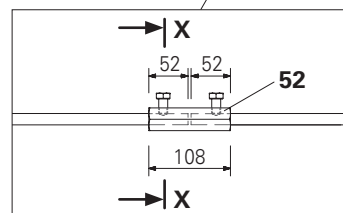

Fig. A7.04b
- Are the M12 x 20 clamping screws of the tie rod extensions tight? (Fig. A7.04b +c)